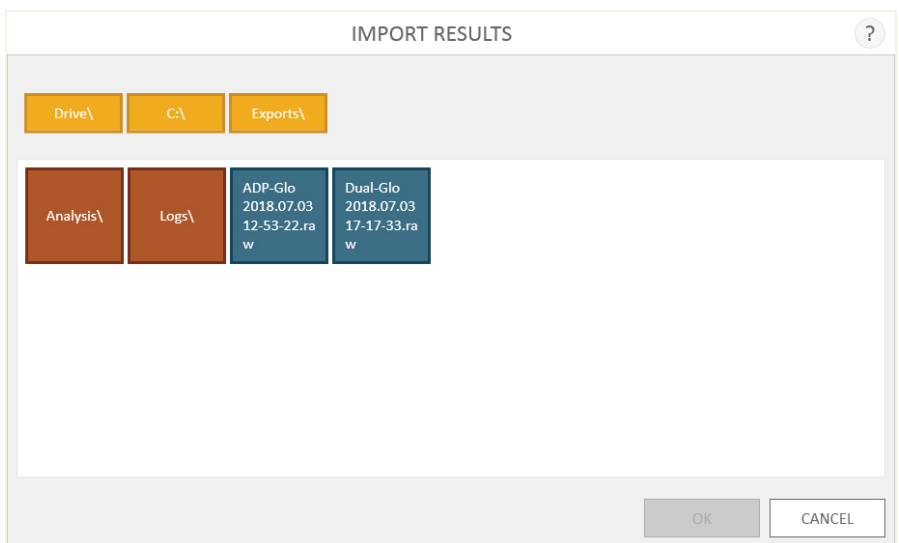

Figure 62. Importing Results, Templates or Analyses. Use the file browser screen to browse to the location of the desired import file.
- c. Touch the **Import** button near the bottom left side of the screen to open the 'Import Results', Import Templates' or 'Import Analyses' screen, depending on the current list being viewed (Figure 62).